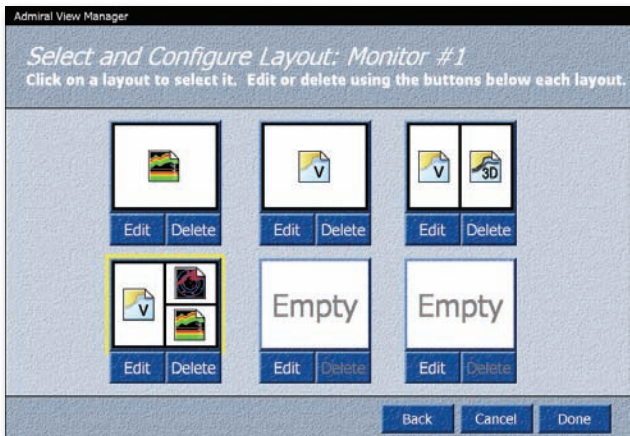

Figure 12.7 - View Manager - Select and Configure Layout
4. If you have one monitor, the first screen you will see is **Figure 12.7**.
5. The Select and Configure Layout screen (Figure 12.7) allows you to configure each window pane layout for content type. To select a pre-existing layout, click on the large white box containing a graphic. To edit or create a new layout, click the **Edit** button.